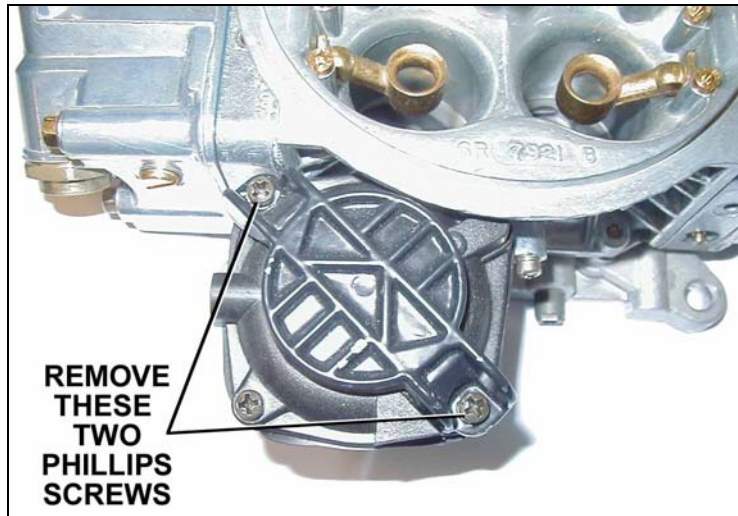

Figure 13
8. Tighten the two Phillips screws securely and reinstall the air cleaner, as shown in Figure 13.